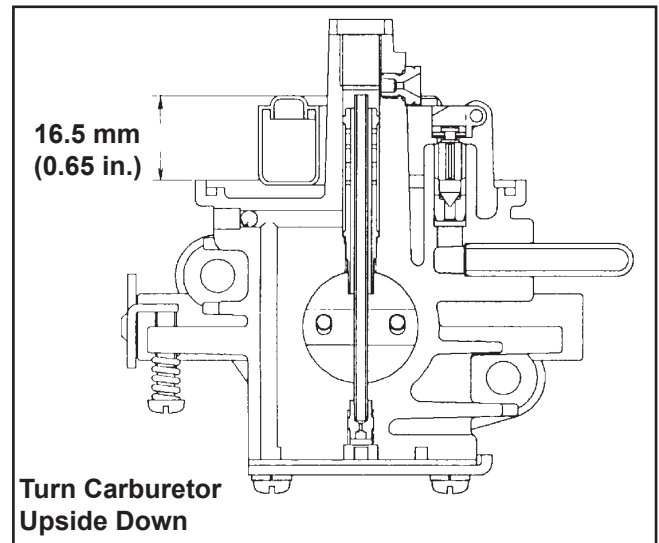

Figure 5-32. Proper Float Level.
6. Turn the carburetor body upside down and check the float level as shown in Figure 5-32. With the float needle valve fully seated, 16.5 mm (0.65 in.) should be measured from the body to the float as indicated. Don't attempt to adjust by bending the tab; replace the float with a kit if the level is wrong.